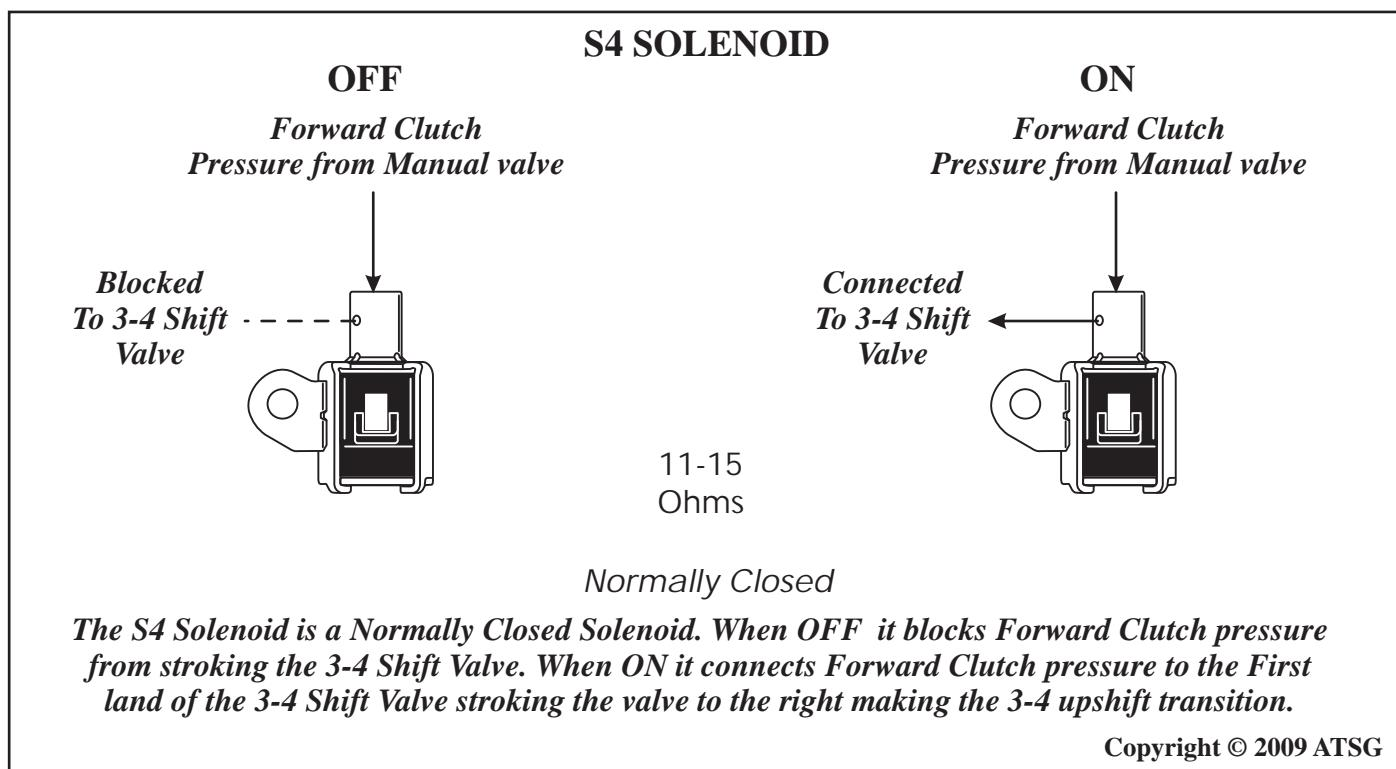

Figure 135
31. Refer to Figure 135 to check the S4 solenoid and its mechanical function. Figure 135 will also show the ohm value and its hydraulic function.